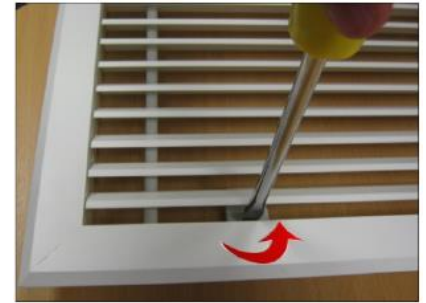

Fig 6
**Step 1** Open the hinged inlet grille using a flat bladed screwdriver to release the quarter turn fasteners (see Fig 6). There are two fasteners on FR-T 1500R and FR-T 2000R units. Before lifting the grille frame into position, remove four (six on FR-T 1500R/FR-T 2000R) M6 bolts fitted on the inside edge of air curtain.